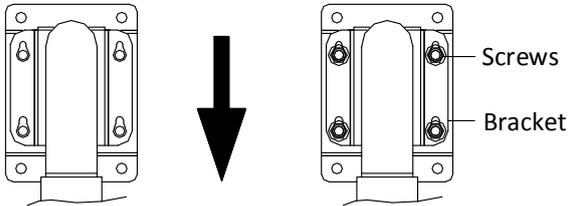

Figure 2-9 Fix the Installation Plate
3. Fix the installation plate and insert M10 $\times$ 80 expansion screws into the screw holes, as shown in Figure 2-9.